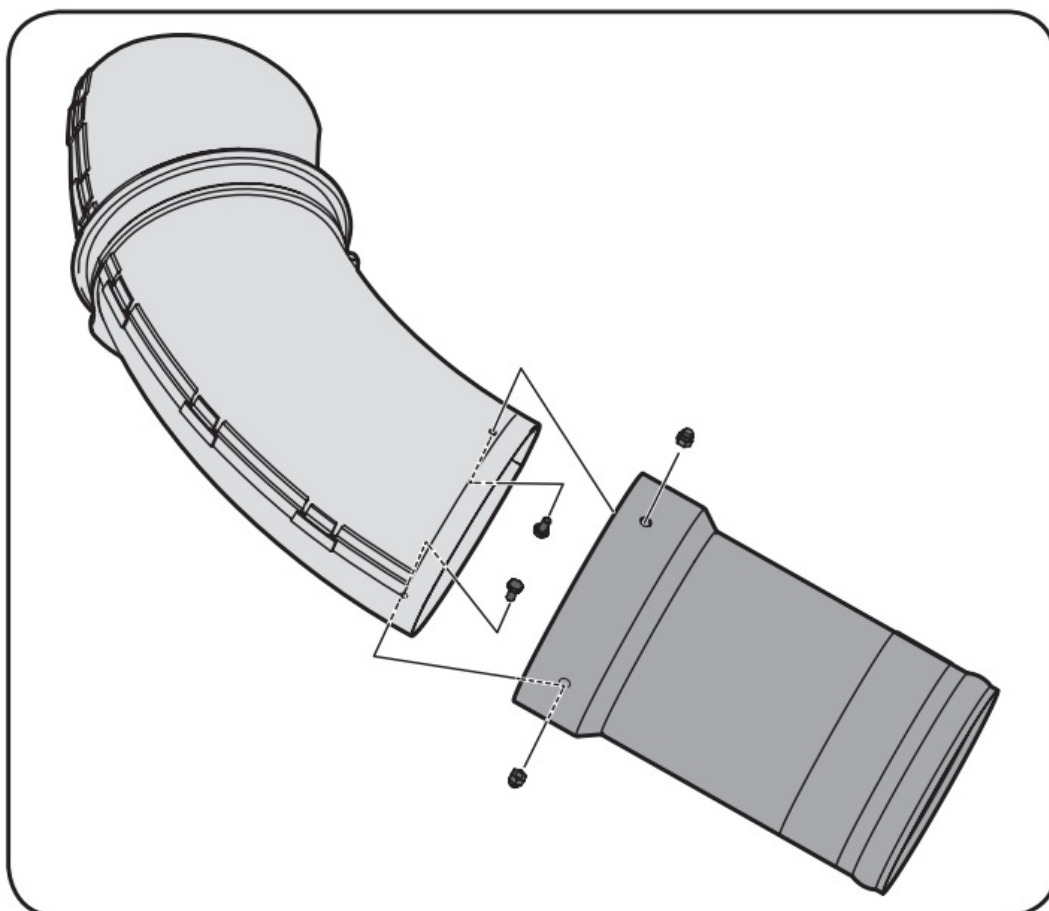

Figure 4-16
4. Install the upper chute tube into the wide end of the extension tube and secure the tubes together using two (710-3013) hex screws and 712-0442 cap lock nuts, included in hardware pack 689-00342. See Figure 4-16.